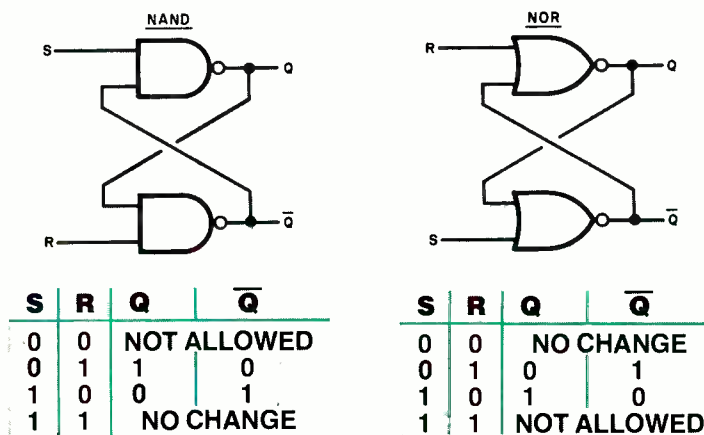

Fig. 11. Simplest flip-flop is made from two NAND's or two NOR's with truth tables as shown.
The RS Flip-Flop. The simplest flip-flop is made from two NAND or NOR gates with crisscrossed inputs and outputs as shown in Figure 11. This basic circuit is called a reset-set (RS) flip-flop
or simply a *latch*. Figure 11 also shows the truth tables for NAND and NOR gate versions of the RS flip-flop.